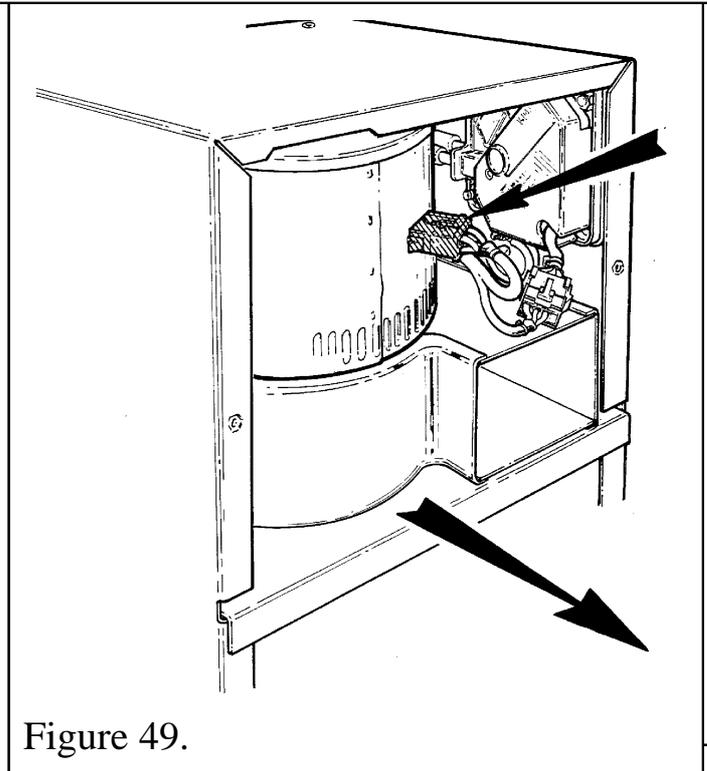

Figure 49.
- Withdraw the fan unit from the fan box taking care not to snag or damage the wiring loom (See figure 49).